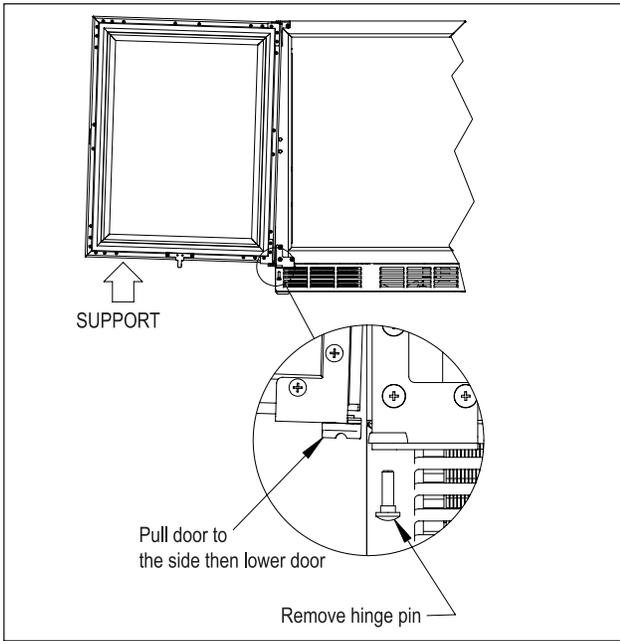

Figure 7. Door Removal
1.) Support the door in the open position as shown in Fig. 7 on page 9. Remove the hinge pin.